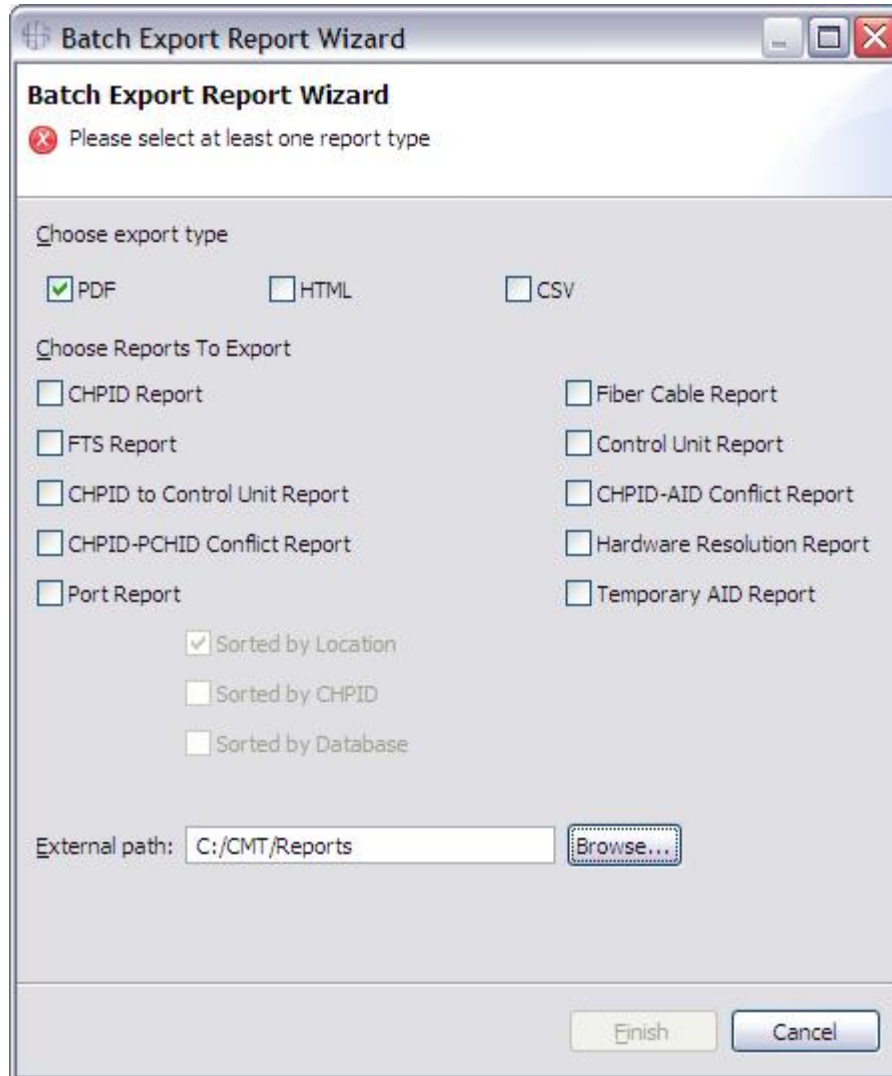

Figure 137. Multi-page Editor File window
1. Click **Save Report**. This displays types of reports. Figure 137 on page 106 shows this.
2. Click **Batch Save** under Save Report. The Multi-page Editor File window is displayed. Figure 137 on page 106 shows this.